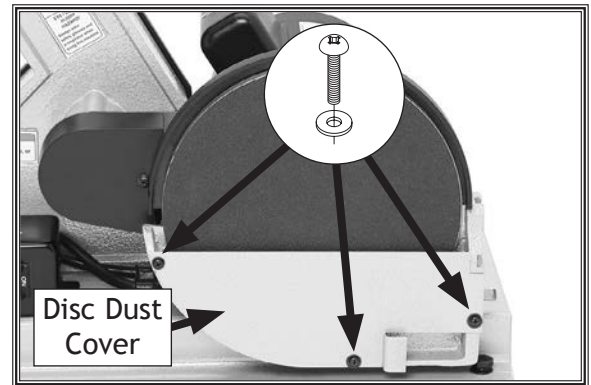

Figure 15. Disc dust cover installed.
12. Install disc dust cover, as shown in **Figure 15**, with (3) M4-.7 x 8 Phillips head screws and 4mm flat washers.